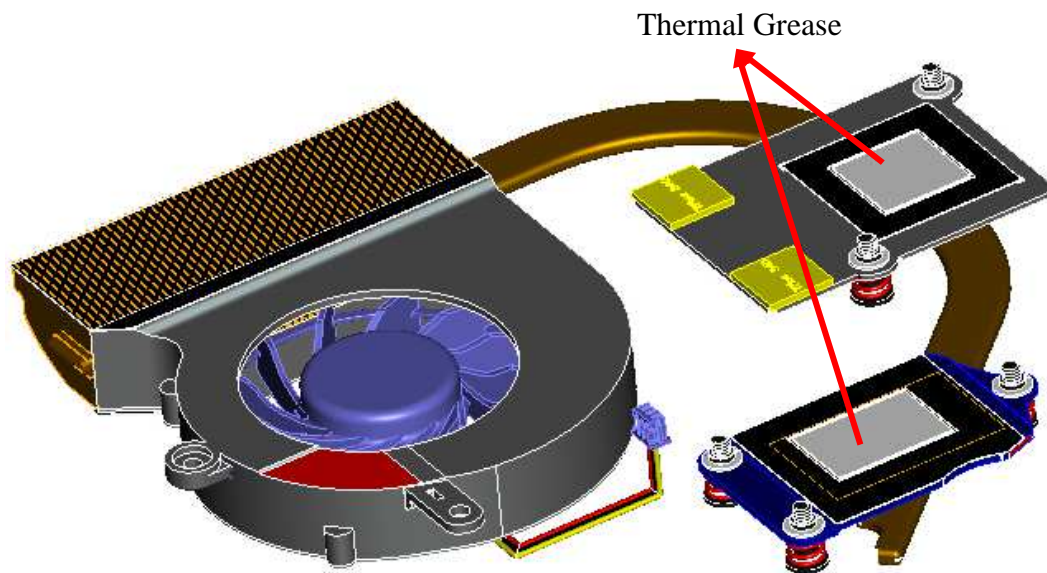

Figure 4-9-1 Remove the thermal module
(Figure 4-9-1)
5. Put thermal grease (See Figure 4-9-1)